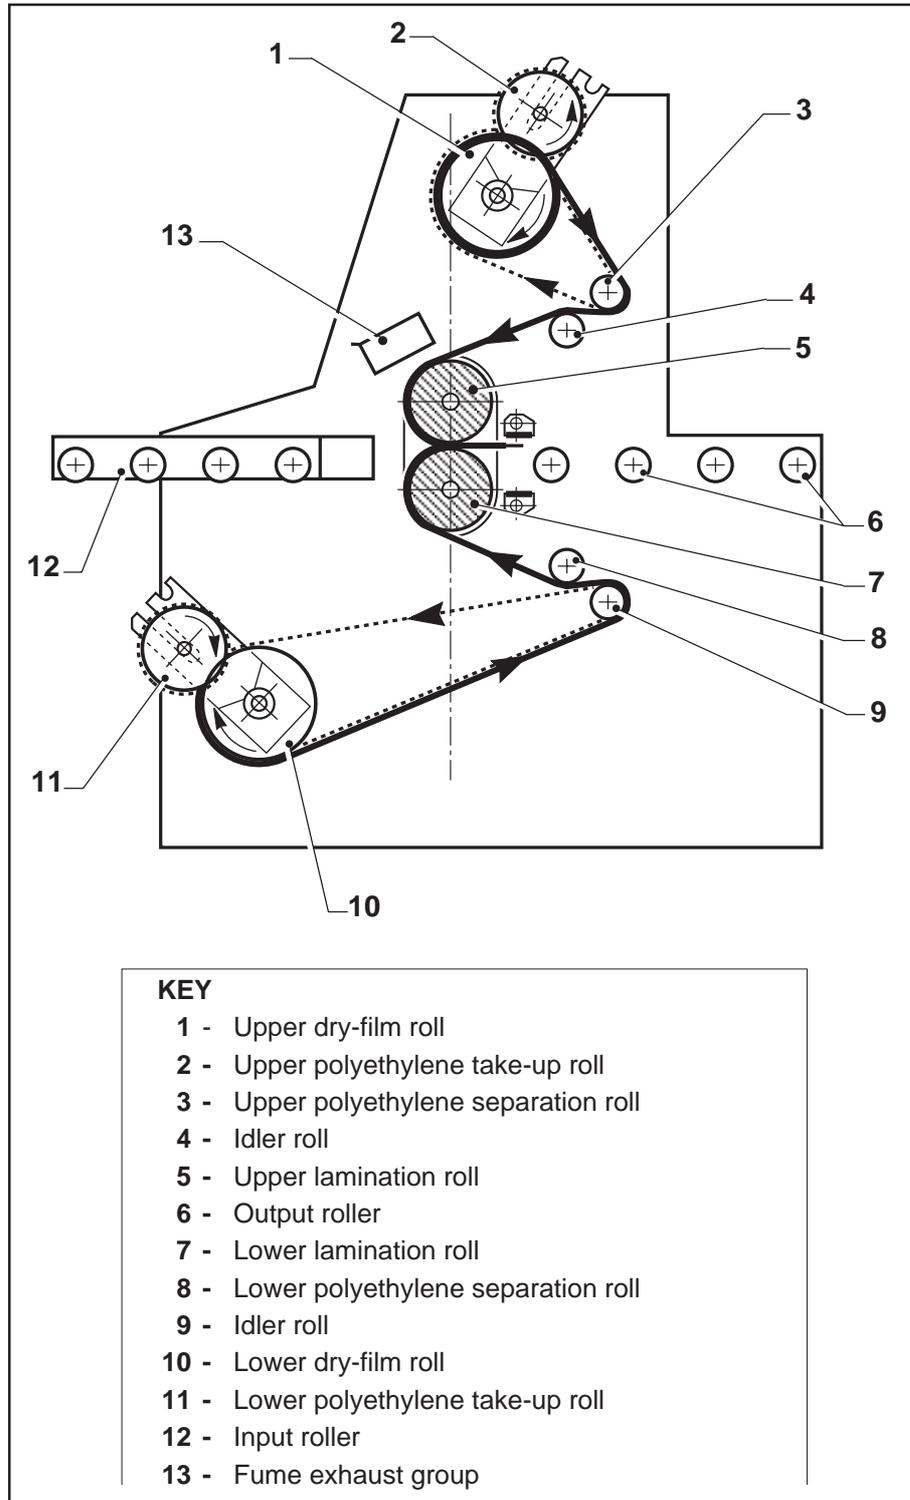

Fig. 11 - DRY-FILM AND POLYETHYLENE THREAD-UP
3.4 - THREAD-UP DIAGRAM (Fig. 11)